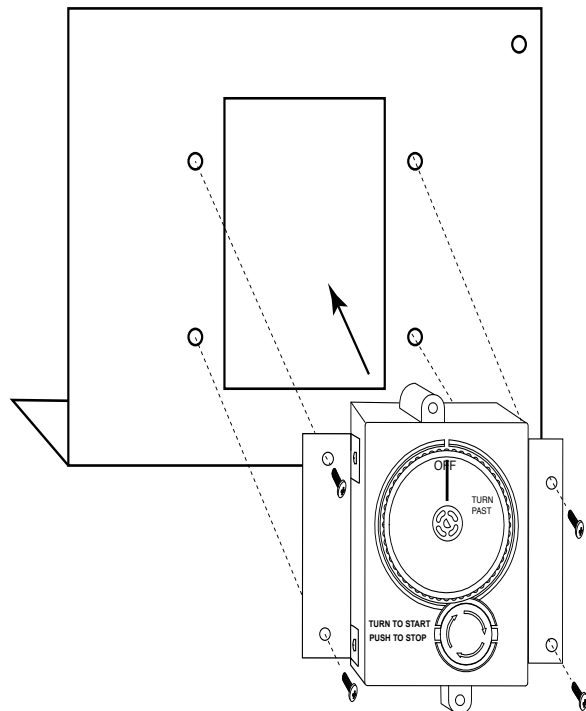

Fig. 3 Shows ESTOP mounted into paver bracket.
Step 3: Install the (4) 10-24 x 1.25" Phillips screws through the mounting brackets, into the paver bracket holes and secure with a washer and nut (on back side) for each hole. See Figs. 3 and 4.